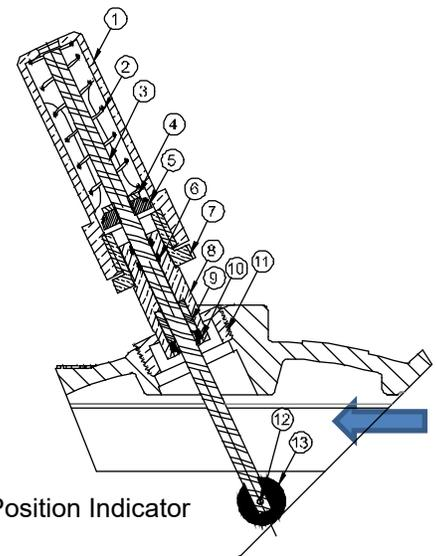

Fig. 4 Position Indicator
The optional valve disc Position Indicator (PI) mechanical indicator is factory (see Fig 4) installed but can also be installed in the field. The Position Indicator visually indicates to what degree the valve disc is opened or closed. The device is installed on the access cover and can be installed in the field by going through the following steps:
3. Apply pipe joint compound to position indicator body (11) threads.
4. Insert the position indicator body (11) and thread in-place.
*For Position Indicator details see Fig.4